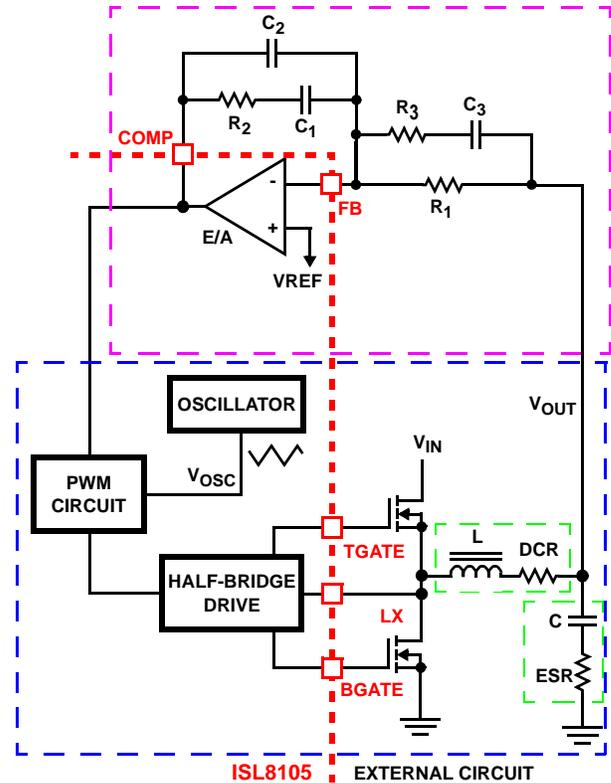

FIGURE 9. VOLTAGE-MODE BUCK CONVERTER COMPENSATION DESIGN
This section highlights the design considerations for a voltage-mode controller requiring external compensation. To address a broad range of applications, a type-3 feedback network is recommended (see Figure 9).
Figure 9 highlights the voltage-mode control loop for a synchronous-rectified buck converter, applicable to the ISL8105 circuit. The output voltage (V_{OUT}) is regulated to the reference voltage, V_{REF} , level. The error amplifier output (COMP pin voltage) is compared with the oscillator (OSC) triangle wave to provide a pulse-width modulated wave with an amplitude of V_{IN} at the LX node. The PWM wave is smoothed by the output filter (L and C). The output filter capacitor bank's equivalent series resistance is represented by the series resistor ESR.
The compensation network consists of the error amplifier (internal to the ISL8105) and the external R_1 - R_3 , C_1 - C_3 components. The goal of the compensation network is to provide a closed loop transfer function with high 0dB crossing frequency (F_0 ; typically 0.1 to 0.3 of F_{SW}) and adequate phase margin (better than $+45^\circ$). Phase margin is the difference between the closed loop phase at F_{0dB} and $+180^\circ$. The equations that follow relate the compensation network's poles, zeros and gain to the components (R_1 , R_2 , R_3 , C_1 , C_2 , and C_3) in Figure 9. Use the following guidelines for locating the poles and zeros of the compensation network:
1. Select a value for R_1 ($1k\Omega$ to $10k\Omega$, typically). Calculate value for R_2 for desired converter bandwidth (F_0). If setting the output voltage to be equal to the reference set voltage as shown in Figure 9, the design procedure can be followed as presented.